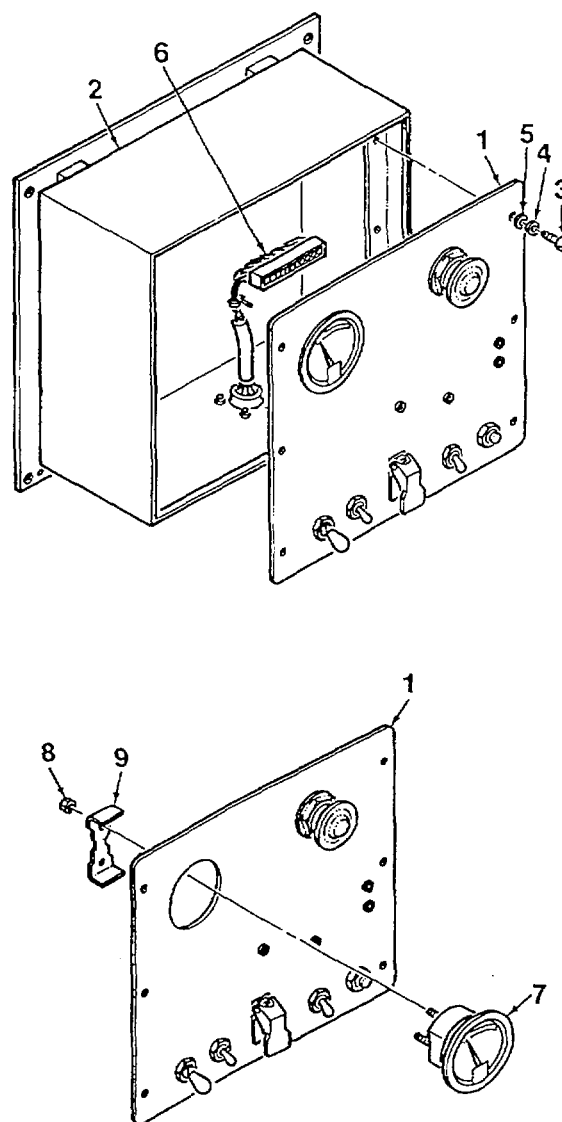

Figure 4-15. Voltmeter damage.
1. Remove front panel (1, Figure 4-15) from remote housing (2) by removing six screws (3), lockwashers (4), and washers (5).
2. Disconnect remote cable electrical connector (6) from circuit board assembly.
3. Tag and disconnect electrical wires from rear of voltmeter (7).
4. Remove voltmeter (7) from front panel (1) by removing attaching nuts (8) and bracket (9).
1. Install voltmeter (7, Figure 4-15) onto front panel (1) using nuts (8) and bracket (9).
2. Connect electrical wires to rear of voltmeter (7) and secure using connector nuts.
3. Connect remote cable electrical connector (6) to circuit board assembly.
4. Mate front panel (1) to remote housing (2) and secure using six screws (3), lockwashers (4), and washers (5).